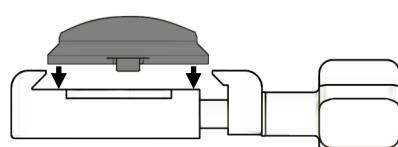

Fig. 2 – Side Load
Step 4: Open the QR clamp The sidekick has an integrated top stop and an optional lower safety Stop screw. These prevent accidental sliding out of the quick release. If you use the lower stop you must open the jaws of the quick-release clamp wide enough to load your lens from the side (instead of sliding it in). See Fig 2 and 3